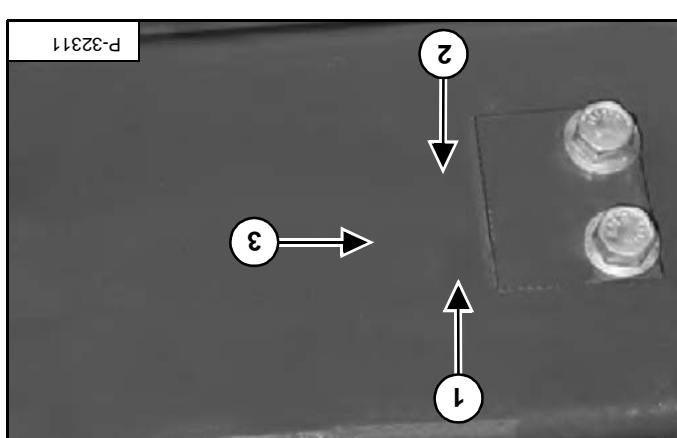

Figure PM-11
Remove the top bolt (item 1) and loosen the bottom bolt (item 2). Pivot the cover (item 3) down [Figure PM-11].